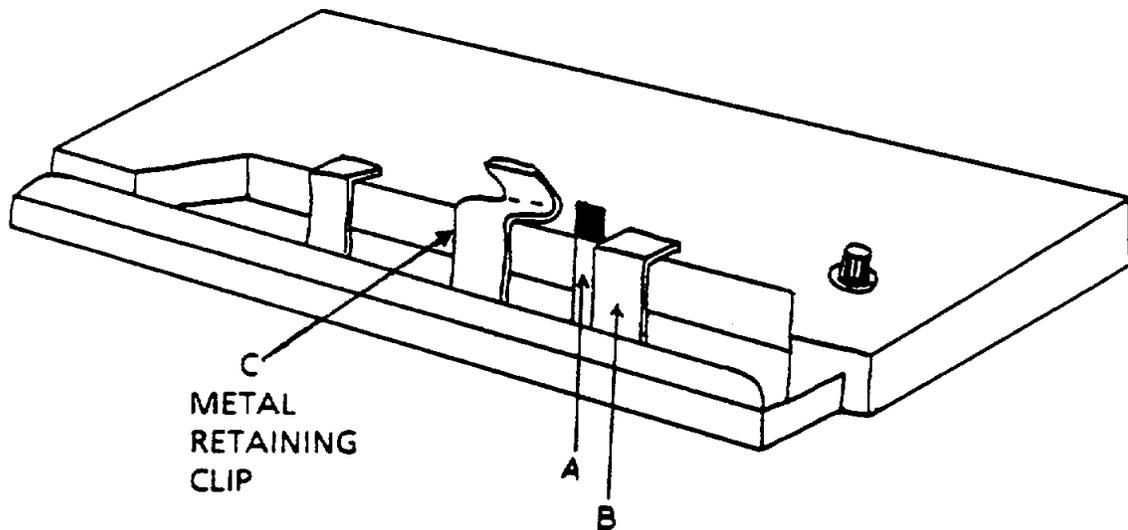
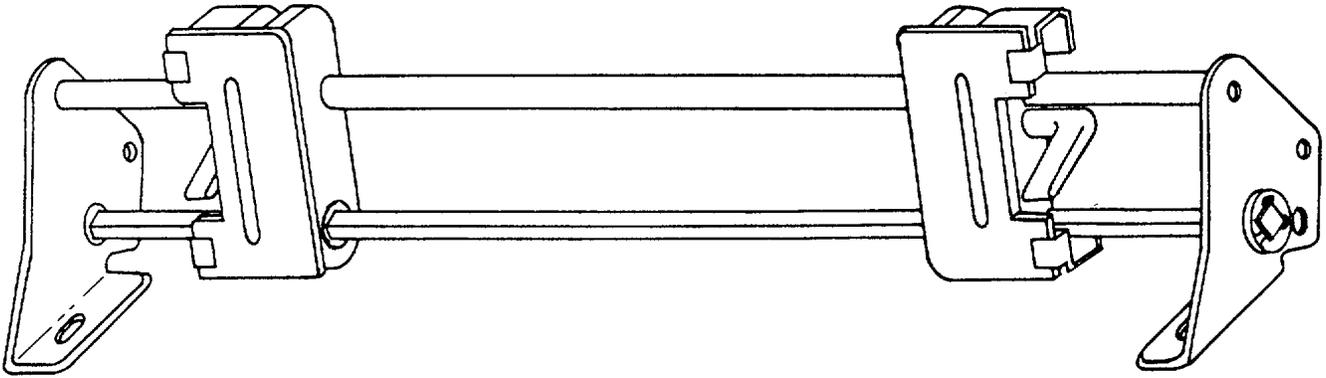

Figure 2-7. Friction Feed Levers
Figure 2-8. Tractor Feed Assembly
- (2) Remove translucent window from top of printer.
- (3) Do not move left paper guide.
- (4) Adjust right paper width guide to fit 2 1/2-inch to 9 1/2-inch paper or label stock.
- (5) Position paper into tray at bottom front of printer with left edge against paper guide.
- (6) Slide paper in until it stops.
- (7) Engage friction feed by pulling lever A to the left of printer See figure 2-7.
- (8) Place power switch in ON position.
- (9) Press PAPER ADV until paper extends slightly above tractor assembly. See figure 2-8
- (10) If paper does not advance, turn printer off and repeat steps (5) through (9).
- (11) Place power switch in OFF position.
- (12) Disengage friction feed levers A and B by pulling lever B forward and sliding lever A behind lever B.
- (13) Make sure right tractor is positioned to width of paper by releasing right locking lever and sliding right tractor to correct width. See figure 2-8.